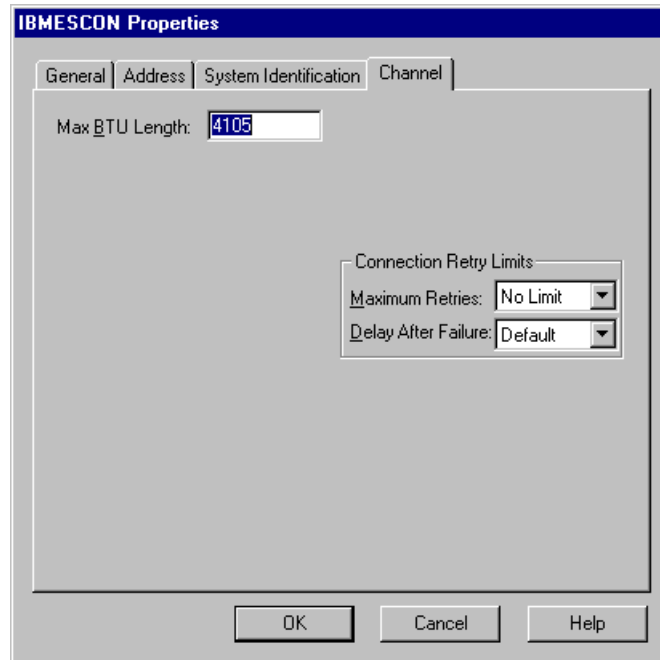

Figure 8-28. Channel Connection Properties
- Click on the **Channel** Tab (Figure 8-28). Set the parameters on the Channel Screen as follows: